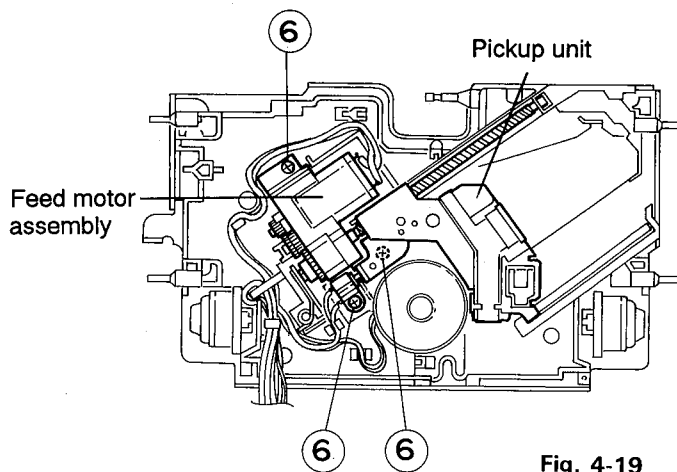

Fig. 4-19
6. Remove the three screws ⑥ retaining the feed motor assembly and take out this motor assembly (See Fig. 4-19).